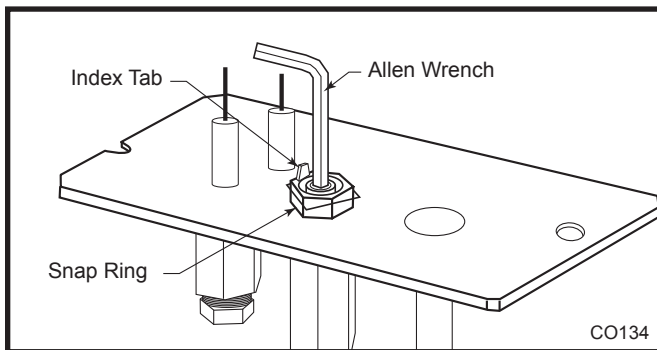

**Fig. 54** Use 3/8" socket to remove hex nuts holding left burner leg.
4. Using a 3/8" hex, remove two (2) hex nuts holding the left burner leg and remove the two (2) hex nut that tie the burner housing to the right and left burner leg. Remove burner leg. (Fig. 54)